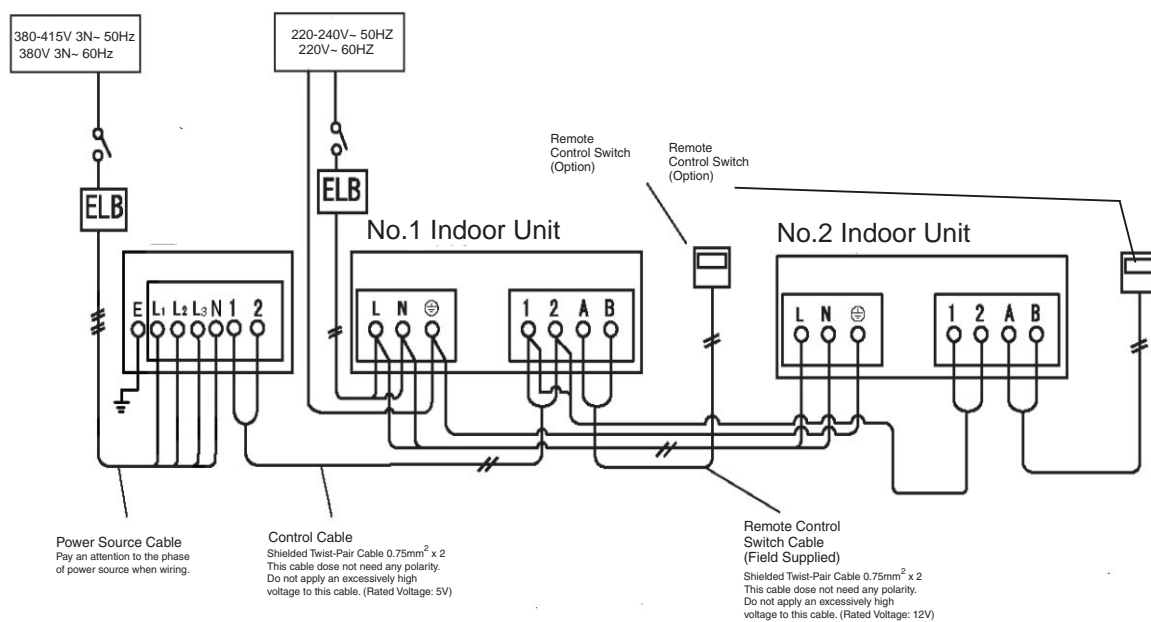

Fig. 6.4 Wiring Connection for Indoor & Outdoor (3N ~)
- (1) Connect the power supply wires to the terminal board in the electrical control box of both outdoor unit and indoor unit. And connect the earth wire to the electrical control box of outdoor unit. In addition, connect the earth wire to earth screw in the electrical control box of indoor unit. Refer to Fig. 6.3-Fig.6.4
- (2) Connect the wires between the outdoor and indoor units to terminals 1 and 2 on the terminal board.